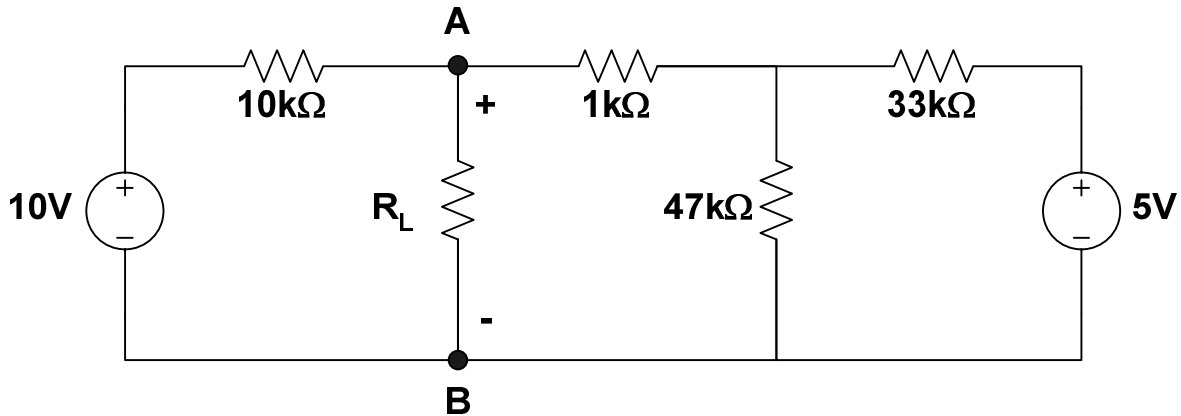

Figure 2: Circuit for Thevenin's equivalent
1. Construct the circuit given in Figure 2 on *Multisim Electronics Workbench*.
6. Build circuit of Figure 2 with hardwired components in the laboratory.
8. In the circuit of Figure 2 connect a variable resistor ( $R_L$ ) between A and B.